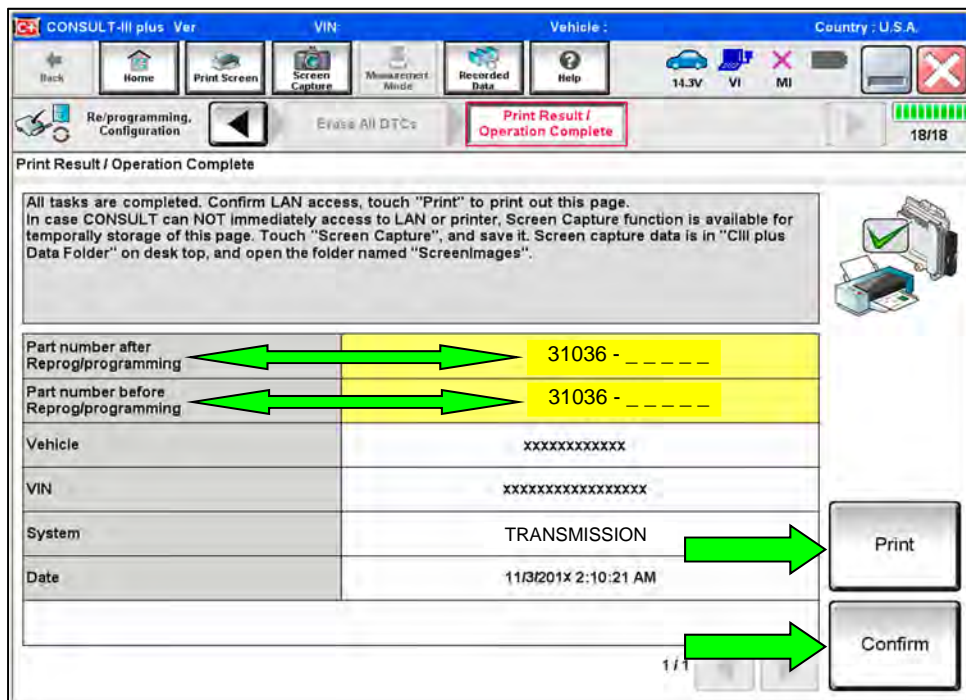

Figure 27
- When the entire reprogramming process is complete, the screen in Figure 27 will display.
37. Print a copy of the screen shown in Figure 27 and attach it to the repair order for warranty documentation.